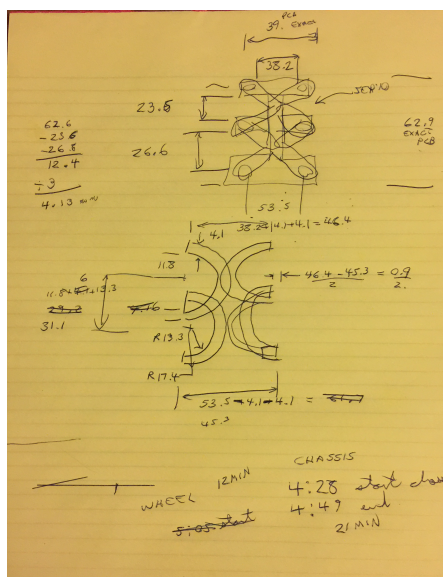

Figure 1 - Sketch of conceptual design (an example of concept development)
Designing and building robots is a great source of entertainment for practicing and aspiring engineers. This paper describes a robot designed for fun, that could also be used to help introduce students to engineering and robotics topics. The robot design begins with some quick measurements and notes, Figure 1. If working with students this is an ideal time to take them through an overview of the engineering design process (i.e., need, specification, concept, embodiment, detail, testing, debugging.) It can be effective if the students are put in groups and asked to design their own robots. In this case calipers were used to measure components and select dimensions. The 3D printer (also known as a Rapid Prototyping (RP) machine, Free Form Fabricator (FFF), Fused Deposition Modeler (FDM), etc.) makes parts with a maximum material condition, typically dimensions grow by 0.2mm. This was subtracted from outside dimensions, and added to inside dimensions. To reduce build time the bottom face of the design was not made as a solid flat sheet, instead a circular pattern reduced material use and improved appearance.